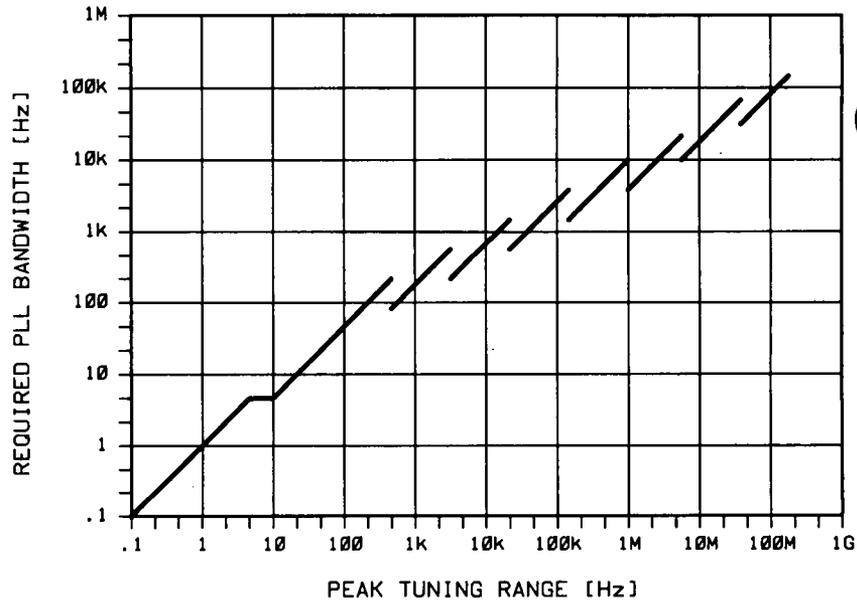

Figure 3-42. Peak Tuning Range (PTR) Required by Injection Locking.
The PTR for the measurement is set by the tuning characteristics of the VCO source you are using. Notice in Figure 3-42 that increasing the PLL bandwidth can require a substantially larger increase in the PTR. For information on the limitations of increasing the PTR, refer to *Changing the PTR* in this section.
3. **Locate the required PLL bandwidth in Figure 3-42 to determine the PTR required for the measurement.** (For details on increasing the PTR, refer to *Changing the PTR* in this section.)